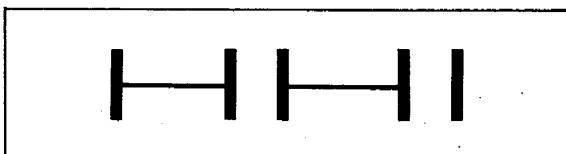

Fig.G1.
- 36) Connect the 5 terminals on the black insulating block on print board V, as shown in Fig.G1.